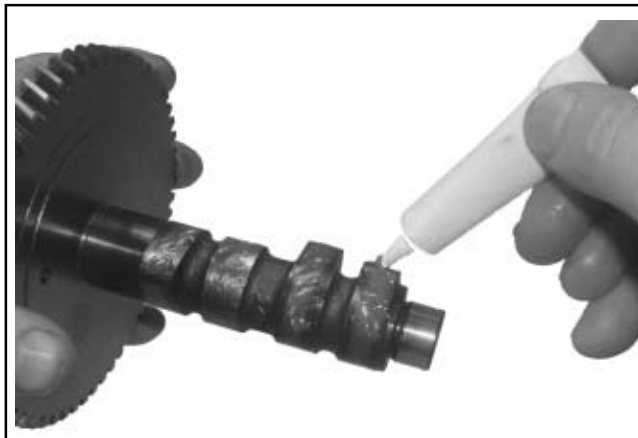

Figure 11-12. Apply Camshaft Lubricant to Cam Lobes.
1. Liberally apply camshaft lubricant (Kohler Part No. 25 357 14-S) to each of the cam lobes. Lubricate the camshaft bearing surfaces of the crankcase and camshaft with engine oil. See Figure 11-12.